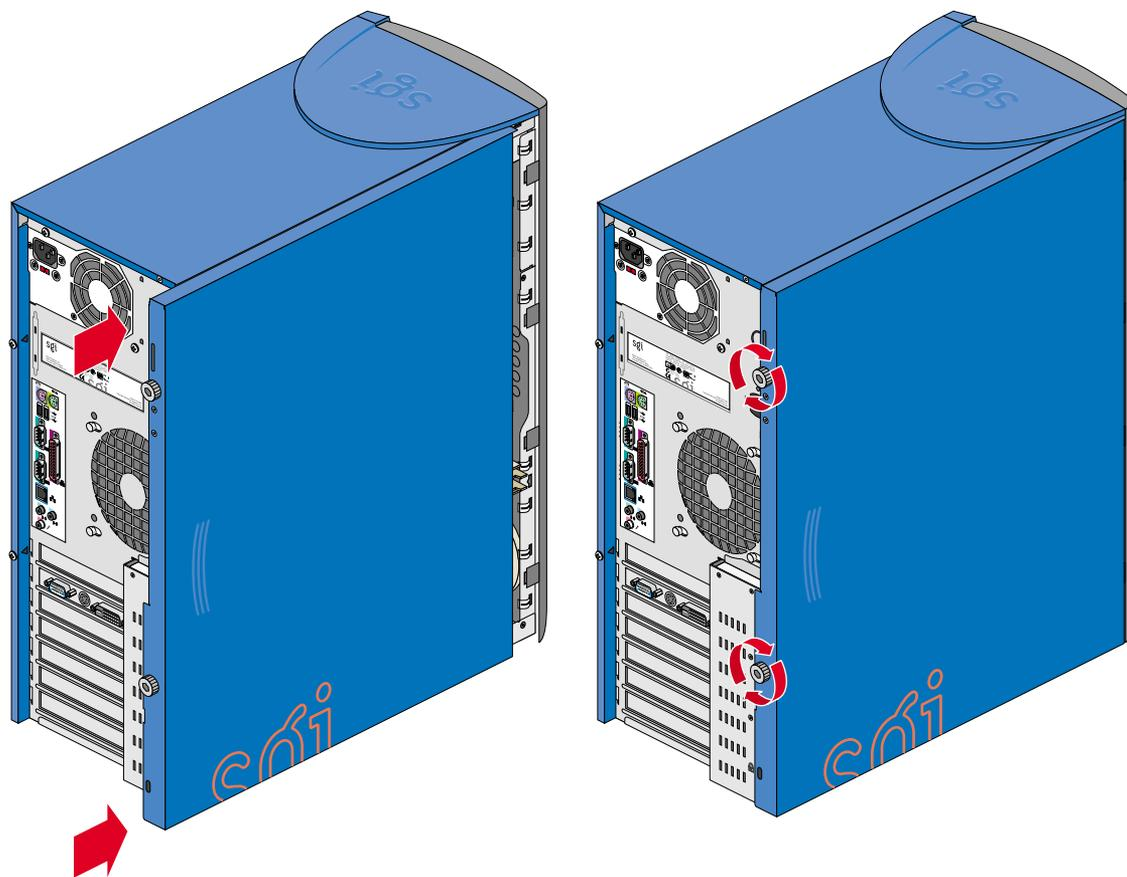

Figure 2-33 Sliding Side Panel into Place
- Slide the side panel towards the front of the chassis until it fits into place. The procedure is illustrated in Figure 2-33.